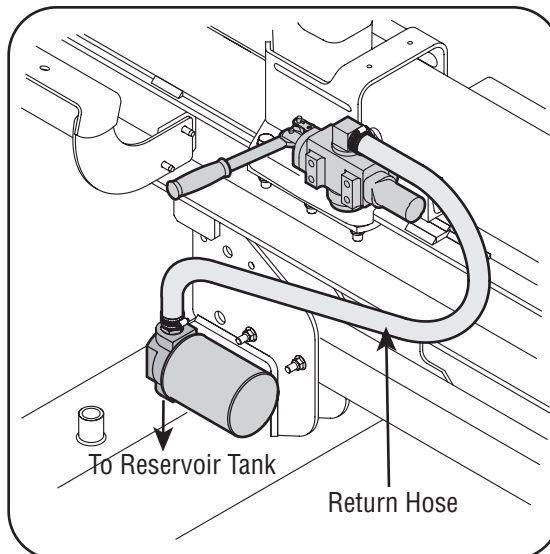

Figure 3-10
3. Attach the end of the hose to the fitting on top of the filter. Place the hose clamp at the base of the fitting and tighten securely. See Figure 3-10.